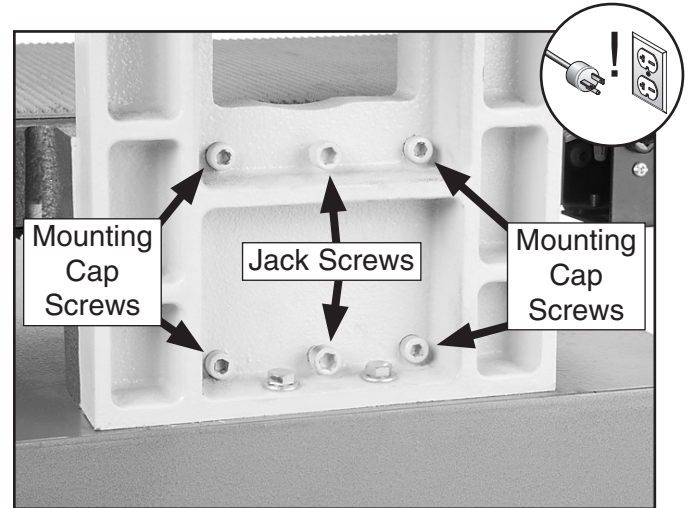

Figure 35. Column mounting cap screws and jack screws.
1. Loosen the four mounting cap screws on the right side of the column base shown in **Figure 35**.